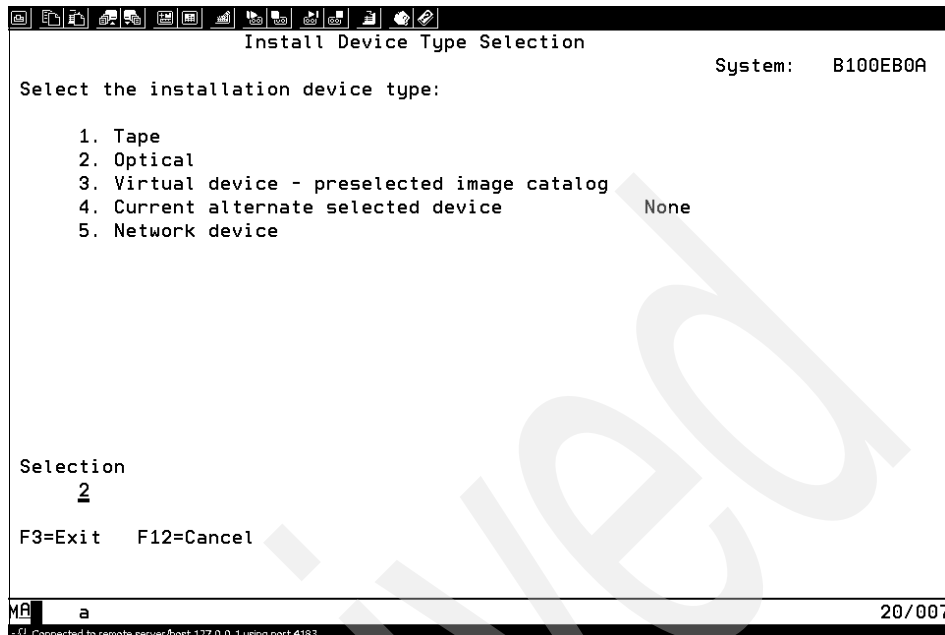

Figure 5-43 Select install device
1. On the IPL or Install the System screen on the console, type the number that corresponds to the correct device type as shown in Figure 5-43 on page 262. In our case we used option 2 for the assigned virtual optical devices.